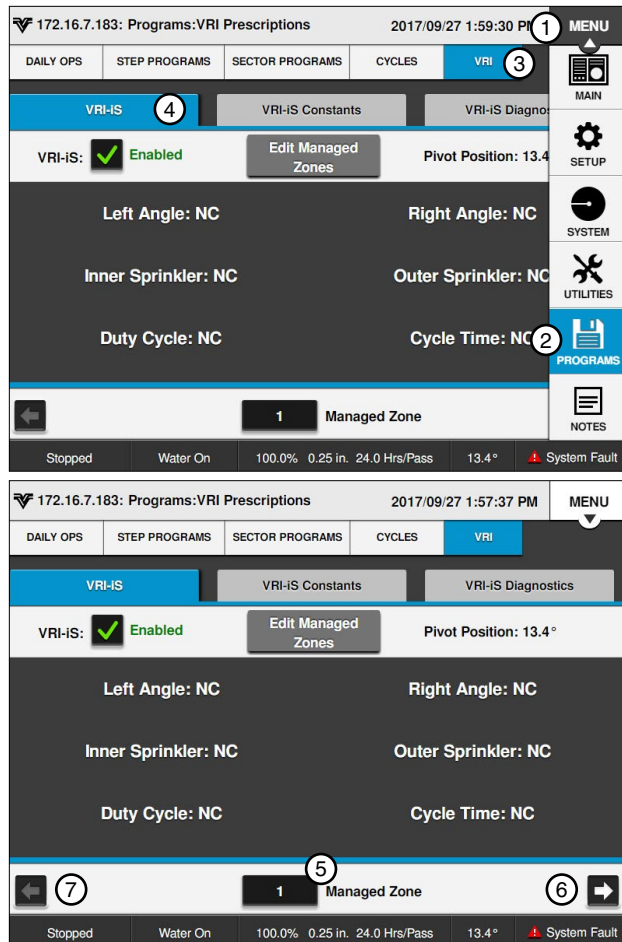

Figure 172-1 1. Menu 5. Managed Zone
1. Push **Menu**, **Programs**, and **VRI** for the VRI-iS screen. Refer to Figure 172-1.